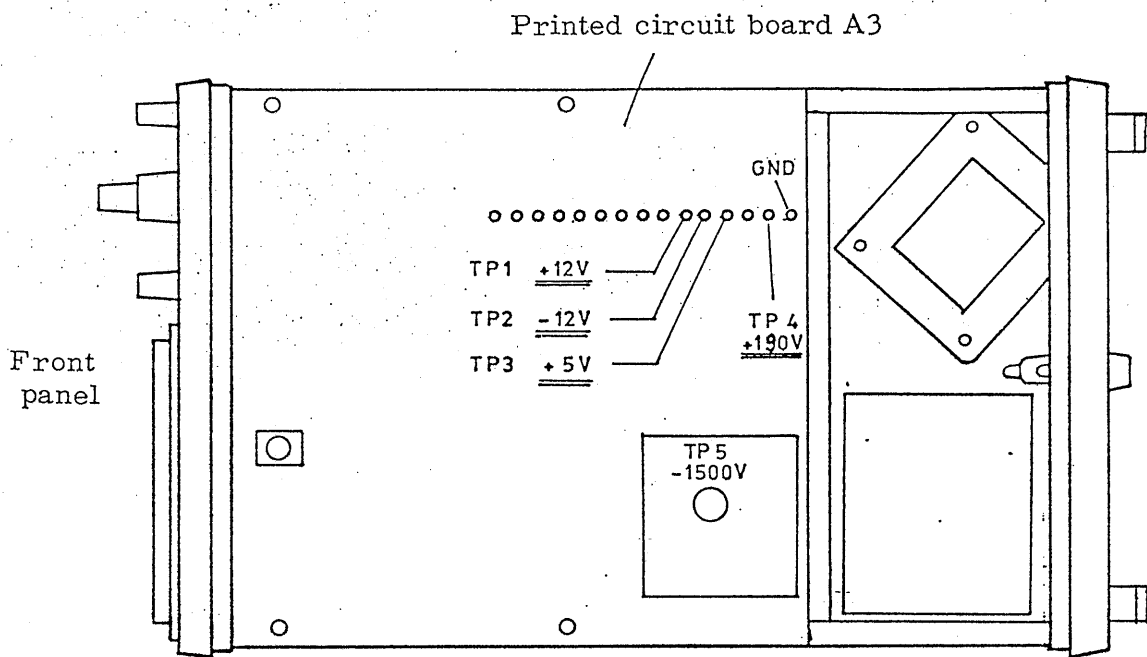
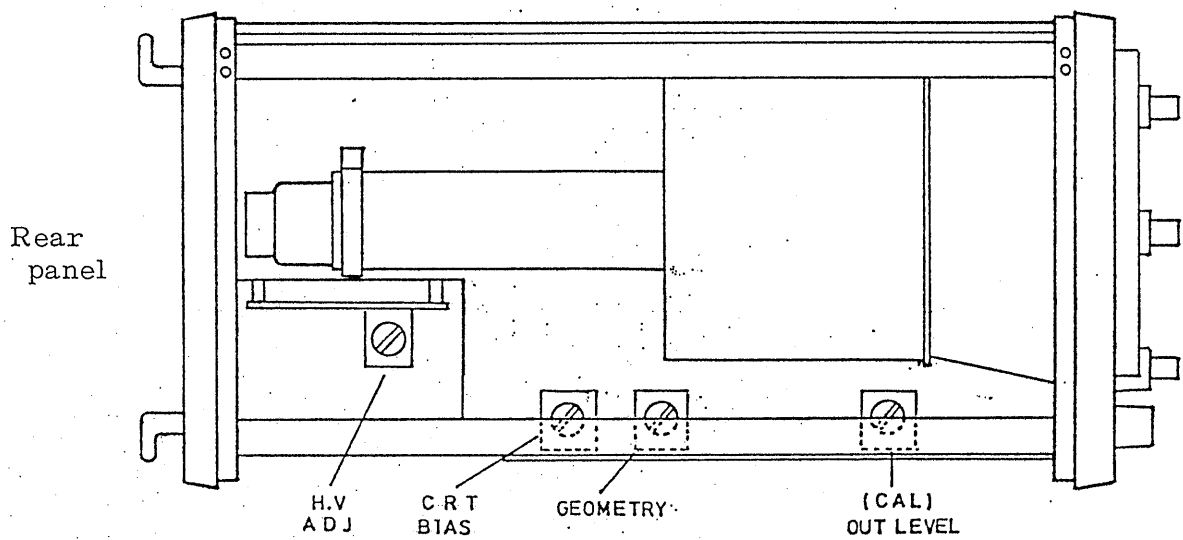

Fig. 22
Fig. 23
The voltage is shown in below table, and the check points and parts for adjustments are shown in Fig. 22 and Fig. 23.
- (1) Set the TIME/DIV switch in the 1mS range, and display a horizontal trace.
- (2) Set white point of the INTEN knob right above, and adjust the CRT BIAS control (Refer to Fig. 23) so that a trace is dimly displayed.
Display the rectangular raster on the CRT screen, and adjust the GEOMETRY control (Refer to Fig. 23.) so that correct rectangular pattern is displayed.